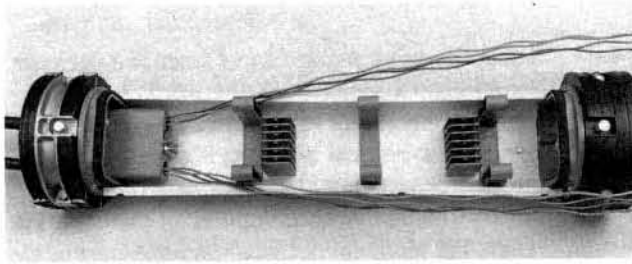

Figure 30
15.03 Securely tighten the bolts on the torque bar. See Figure 30 for completed installation of bottom shell half assembly.